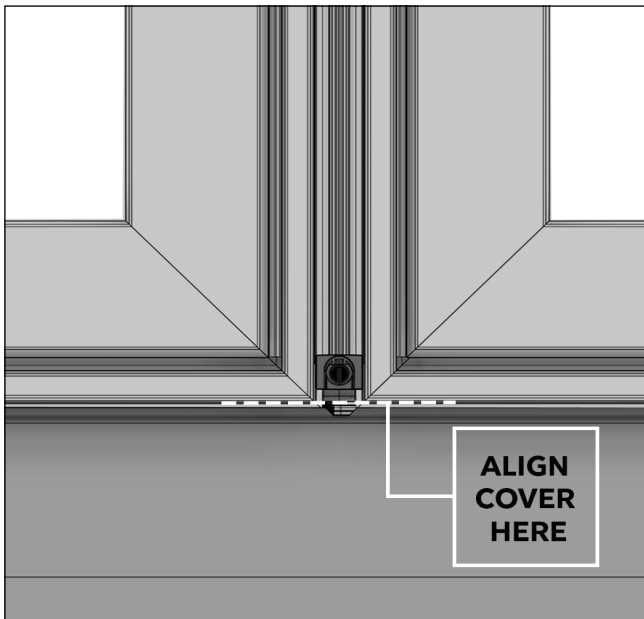
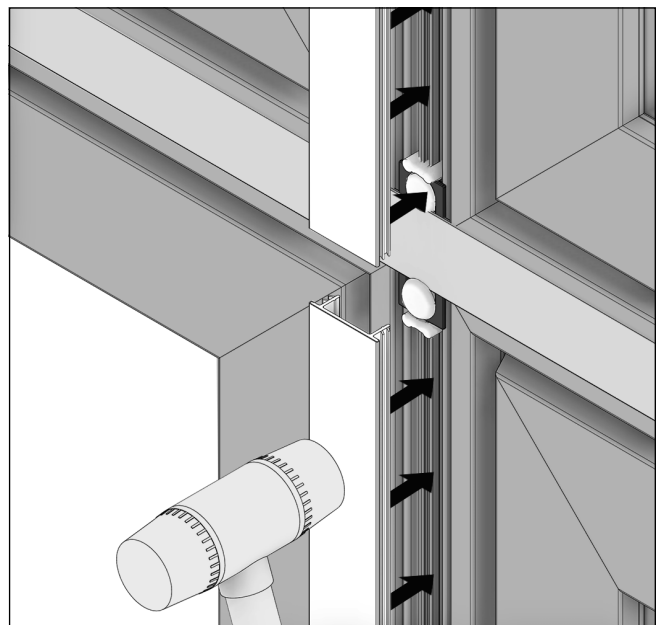

Figure 86 Align exterior cover (MRF)
Figure 88
18. Align exterior cover to the edge of the accessory kerf and install cover before sealant skins over for best performance. *Tip: work from one end to another, “roll” in, seat with mallet.* If a multi wide multi high mull is installed, install the shorter covers after the continuous covers have been installed (tighter joints). See Figure 86-Figure 88.